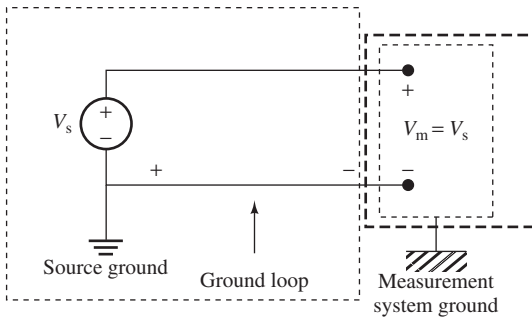

FIGURE 11.31 Ground loop.
Figure 11.31 illustrates an example of a ground loop that is created across the measuring instrument and the instrument case grounds. Assuming that the resistance of the ground wires are not the same, a potential difference will be created across these two wires. When the measuring instrument and the instrument case grounds are connected together, a potential current will flow from one ground to the other through the small (but nonzero) resistance of the connecting wire. Thus, the voltage measured by the instrument will include the unpredictable voltage difference, ΔV . This leads to a measurement error.
- To avoid ground loop in measurement instruments, the instrument case ground and the source ground must be disconnected (see Figure 11.31).